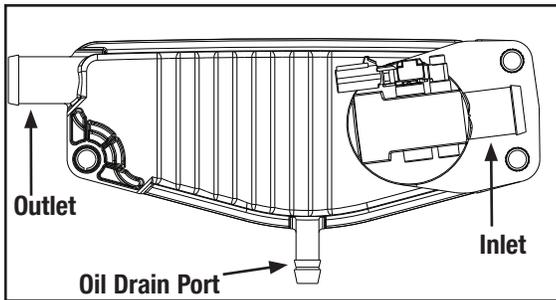

Figure 1: CV Unit Preferred Orientation: Oil Drain Port Pointing Down
- Make sure the CV unit is placed in the right orientation with respect to the flow direction. Refer to Figure 1 for guidance.